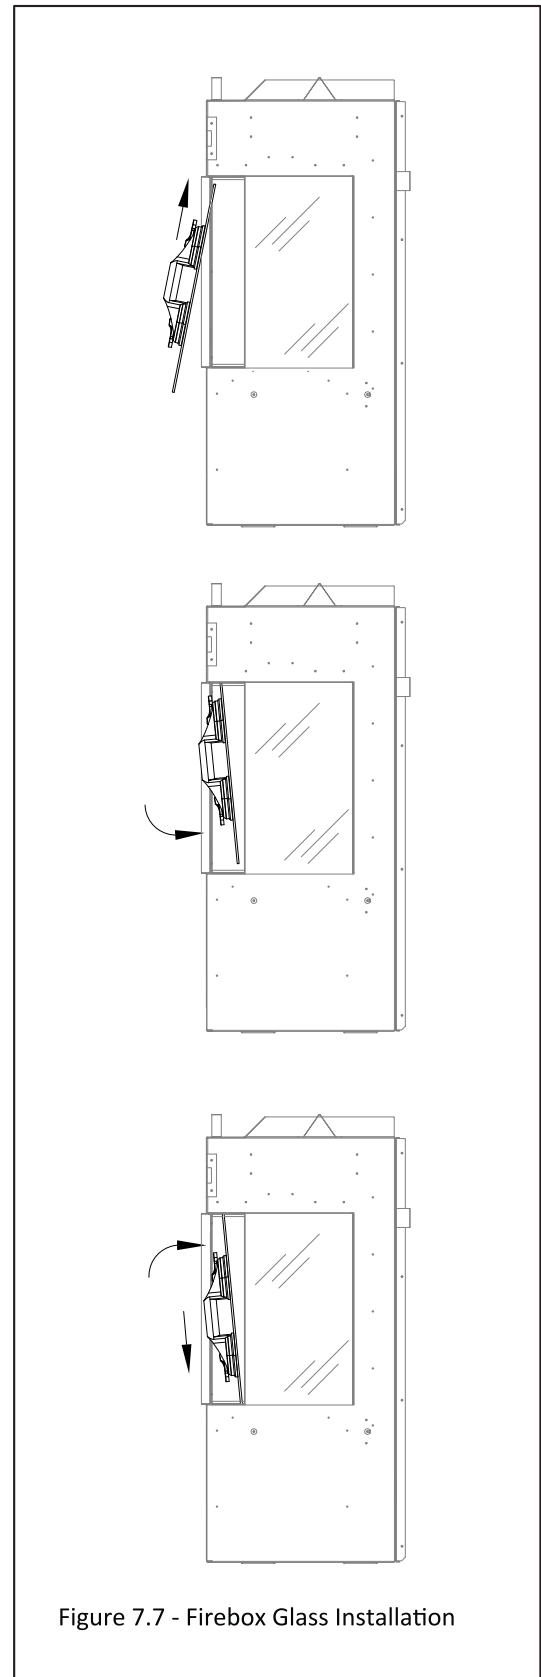

Figure 7.7 - Firebox Glass Installation
2. Install the front piece of glass. When installing the front piece of glass you may find it helpful to start with the bottom glass brackets installed but left loose. As you lift the glass into place (See Figure 7.7) start with the glass slightly offset to the side of the firebox that does not have the side glass installed yet. You are able to slide the front glass sideways into the silicone sealing strip of previously installed side firebox glass.